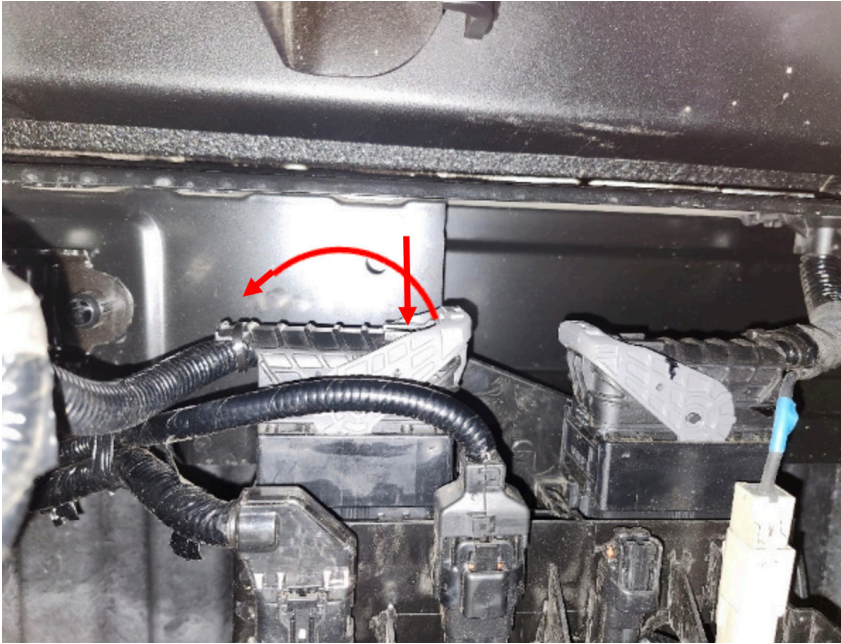

Figure 1
1. From under the truck unplug bumper wire harness and trailer plug. Bumper harness is located on rear driver side of truck. Press black tab to release gray lever on connector, then rotate lever to fully disconnect harness. (Figure 1)